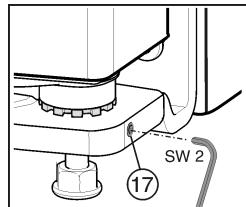

Fig. 29
- Unscrew the threaded pin *Fig. 29 (17)* a little (no more than one turn).
- Screw the threaded pin *Fig. 29 (17)* in again to fix the bearing pin.